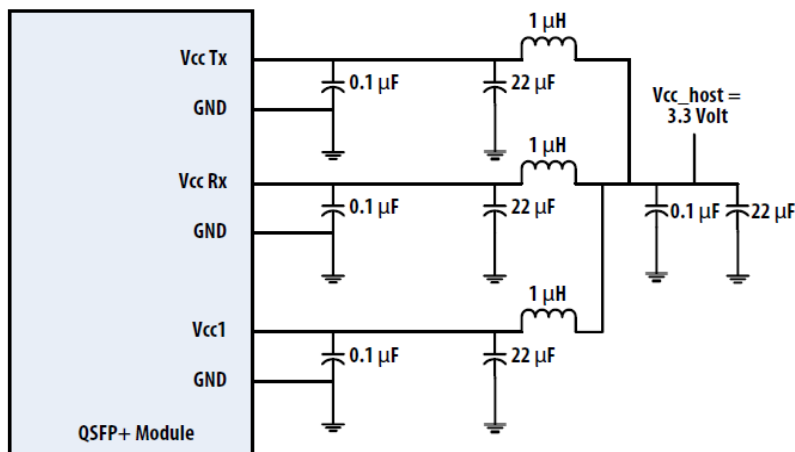

Figure 3. Recommended Power Supply Filter
2. VccRx, Vcc1 and VccTx are the receiving and transmission power suppliers and shall be applied concurrently. Recommended host board power supply filtering is shown in Figure 3 below. Vcc Rx, Vcc1 and Vcc Tx may be internally connected within the module in any combination. The connector pins are each rated for a